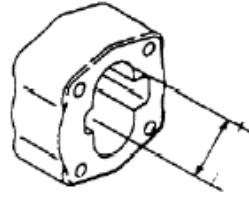

Fig. 5-23
Before disassembling the pump, put the removed parts on the paper or cloth. Don't damage the parts. (See Fig. 5-23)
a) Body inspection (See Fig. 5-23)